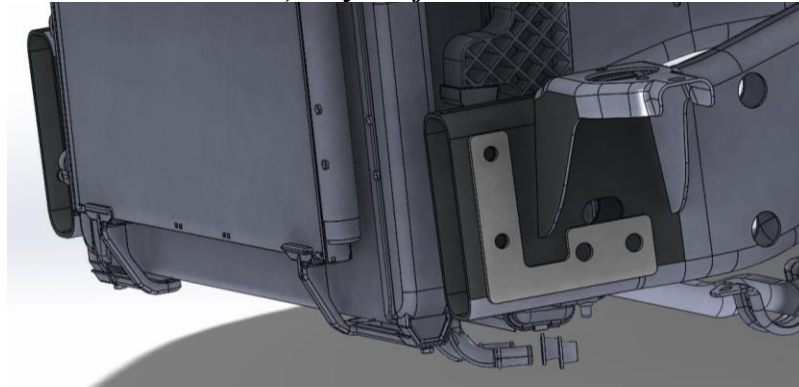

Figure 7
5. Use the supplied drill template on the frame rail to locate the additional holes to be drilled out if all four holes are not present. **(Figure 7)**